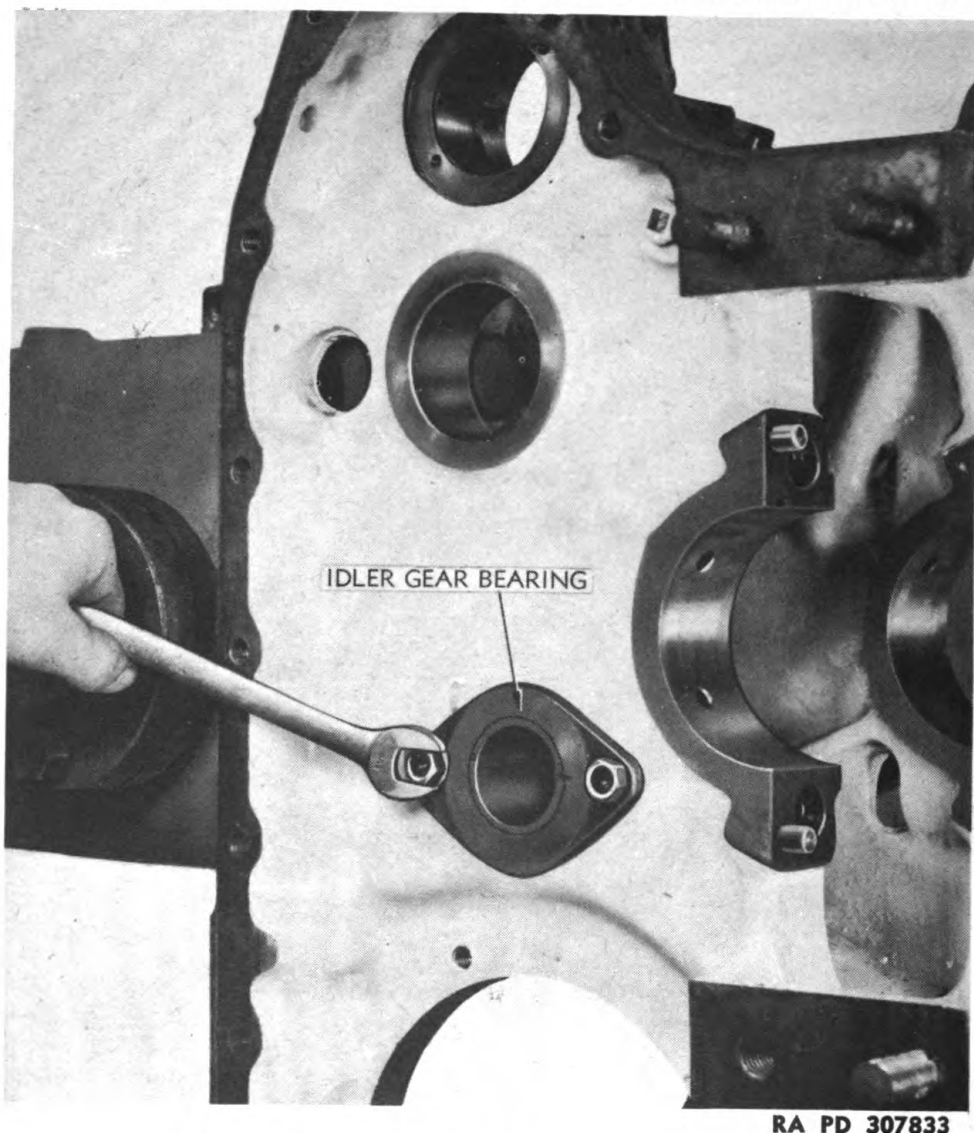

Figure 29 – Removing Idler Gear Bearing
i. Remove Idler Gear Assembly. Pull idler gear and spindle from cylinder block (fig. 28). Remove the two special idler gear bearing retaining cap screws (fig. 29) and pull bearing from cylinder block.